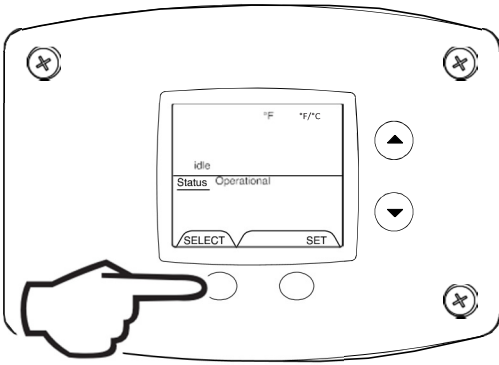

Fig. 22
3. Change temperature format from °F to °C by following the steps in Fig. 22 to 27 on page 29 & 30.
1. Press 'SELECT' button until °F/°C is displayed (Fig. 22).